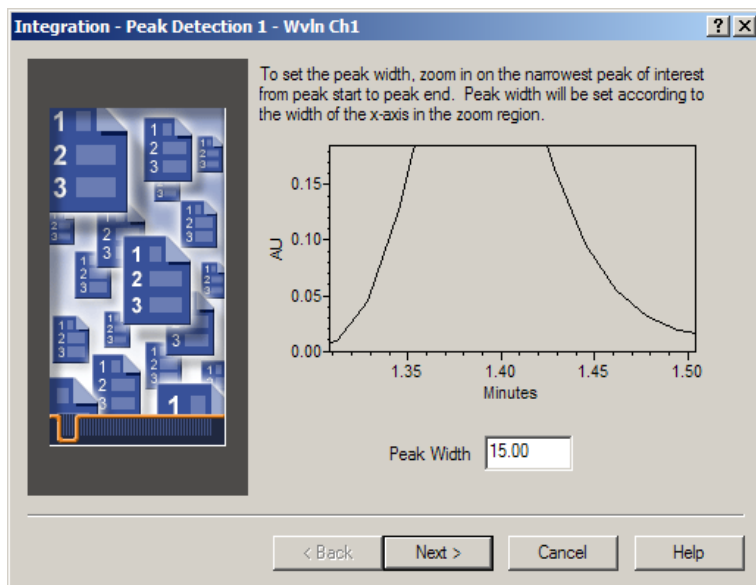

Figure 4-17 Setting the Peak Width Parameter
5. Follow the wizard instructions and use the mouse to draw a zoom box that encloses the liftoff and touchdown of the narrowest peak of interest (peak 1 at 1.39 minutes). The software displays the zoomed selection and determines the appropriate peak width (Figure 4-17).